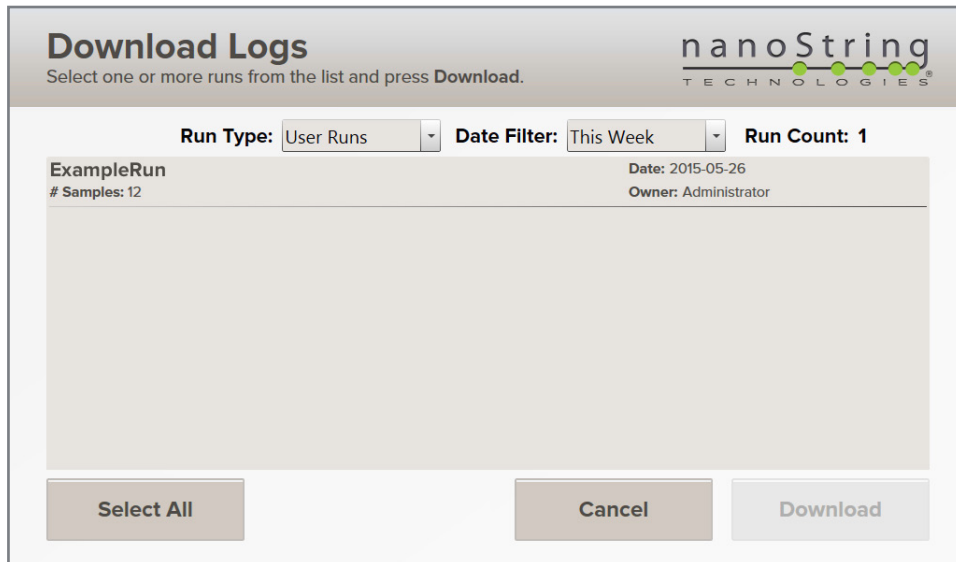

FIGURE 6.19 The Download Logs screen.
6. Repeat **Steps 1–5** to access maintenance log files on the instrument. Press the **Logs** icon in **Step 2** and the Download Logs screen will appear (**FIGURE 6.19**). The selected log files will be saved to a separate folder on the USB drive. Only user and service logs are available on-board the instrument. For user, service, and system logs, use the web app. Refer to the **Downloading Sprint Logs Quick Guide**.